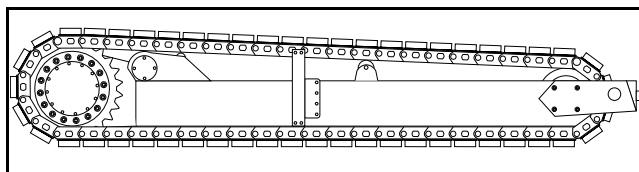

Figure 6 - 10 Install track pad
- 10) Once master link is connected, apply Loctite to bolts and install track pads. (Figure 6 - 10)